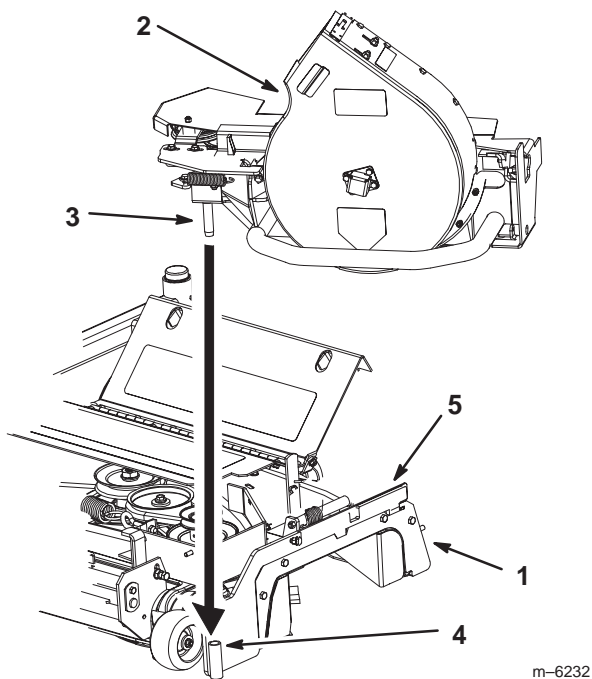

Figure 10
3. Slide the blower assembly peg into the hole on the mounting plate (Fig. 10).